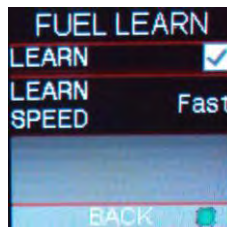
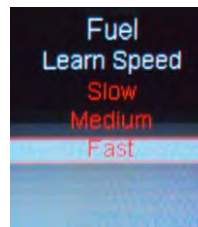

Figure 23
Figure 24
Selecting FUEL LEARN brings up the following screen (Fig 23):
**LEARN Enable Checkbox:** The LEARN Enable Checkbox turns the Self Tuning “On” and “Off” (Fig 23). If checked, self tuning is performed. Learning should be enabled when an engine is just started and the tuning process is occurring. After the vehicle is driven under various operating conditions, and is running well, it is advised to disable learning, OR slow the Learn Speed to “Slow”.
**LEARN SPEED:** This parameter adjusts how fast the learning process occurs (Fig 23). On fresh startups, it should be set to “Fast” (Fig 24). After the vehicle is driven under various operating conditions, and is running well, it is advised to disable learning, OR slow the Learn Speed to “Slow”.